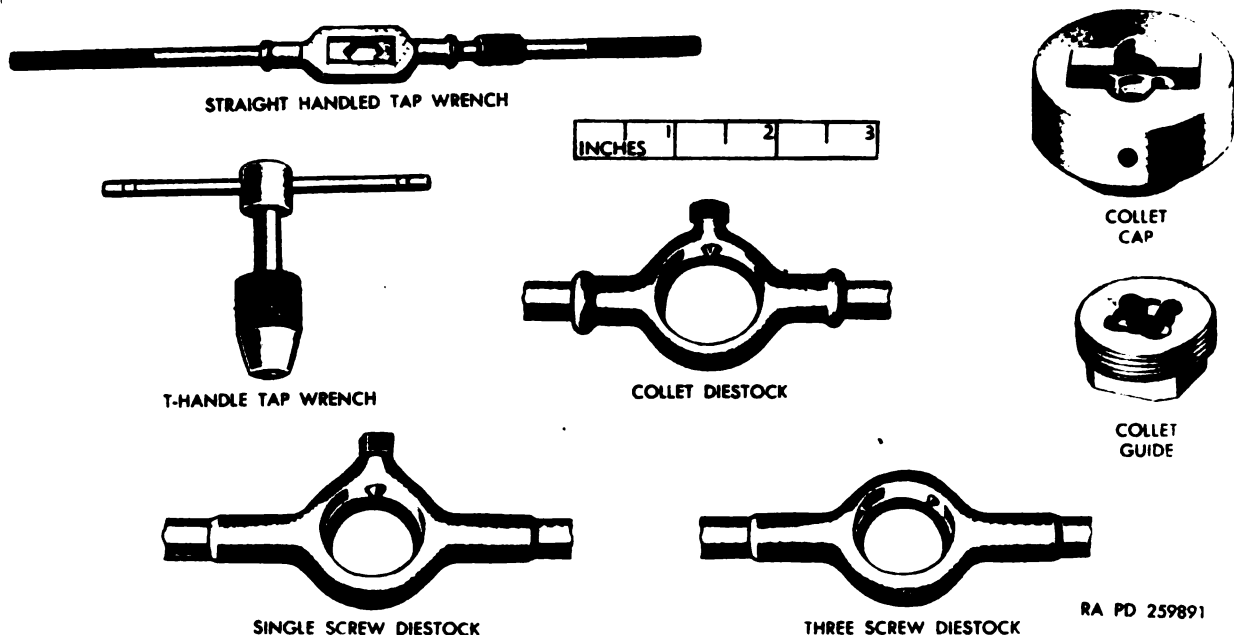

Figure 270. Diestocks, die collet, and tap wrenches.
holders. The adjustment in the screw adjusting type is made by a fine-pitch screw which forces the sides of the die apart or allows them to spring together. The adjustment in the open adjusting types is made by means of three screws in the holder, one for expanding and two for compressing the dies. Round split adjustable dies are available in a variety of sizes to cut American Standard Coarse and Fine threads, special form threads, and for the standard sizes used in Britain and other European countries. For hand threading, these dies are held in diestocks (fig. 270). One type has three pointed screws that will hold round dies of any construction, although specifically made for open adjusting-type dies.
- (2) *Two-piece collet dies.* A two-piece collet dies, as shown in figure 269, is used with a collet (fig. 270). The collet consists of a cap and a guide. The die halves are placed in the cap slot and are held in place by the guide which screws into the underside of the cap. The die is adjusted by means of setscrews at either end of the internal slot. This type of adjustable die is issued in various sizes to cover the cutting range of American Standard Coarse and Fine and special form threads. Diestocks (fig. 270) to hold collets are issued in three sizes.